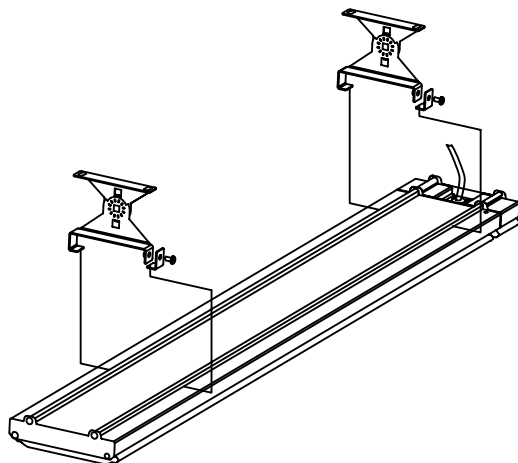

Fig. 5
4. Install the brackets at distance from each other according to Fig. 5, securing them using a chain or fasteners.
5. Suspend the heater on the brackets according to Fig. 5, first securing on edge, then another. Make sure that screws are tightened firmly.